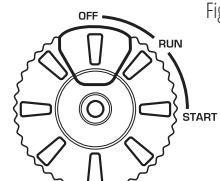

Fig. 3
5.2 For electric start, press the red button on the multifunctional engine switch (fig. 3)
6. After starting the engine, turn the Multifunctional engine switch to the "RUN" position (fig. 3).
8. For manual start, pull the manual starter until a slight resistance is felt, then pull it toward you relatively sharply. Slowly turn the manual starter by hand, do not release it abruptly. For electric start, press the red button on the multifunctional engine switch (fig. 3).
9. After starting the engine, turn the Multifunctional engine switch to the "RUN" position (fig. 3).